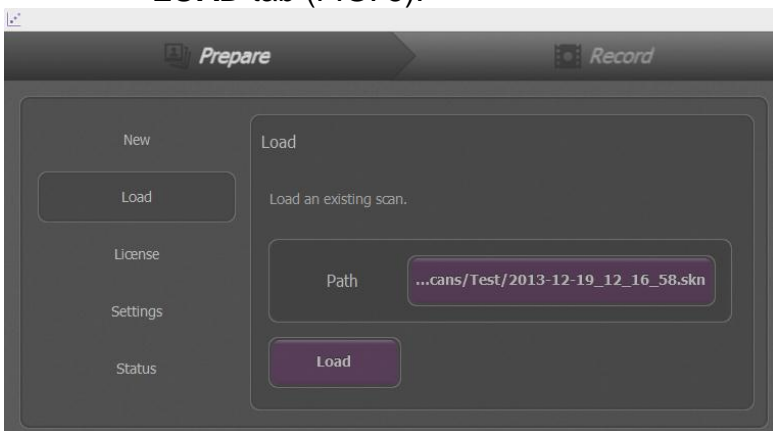

Figure 5: Loading previous model
- b. Recorded models may be loaded through **LOAD** tab (FIG. 5).